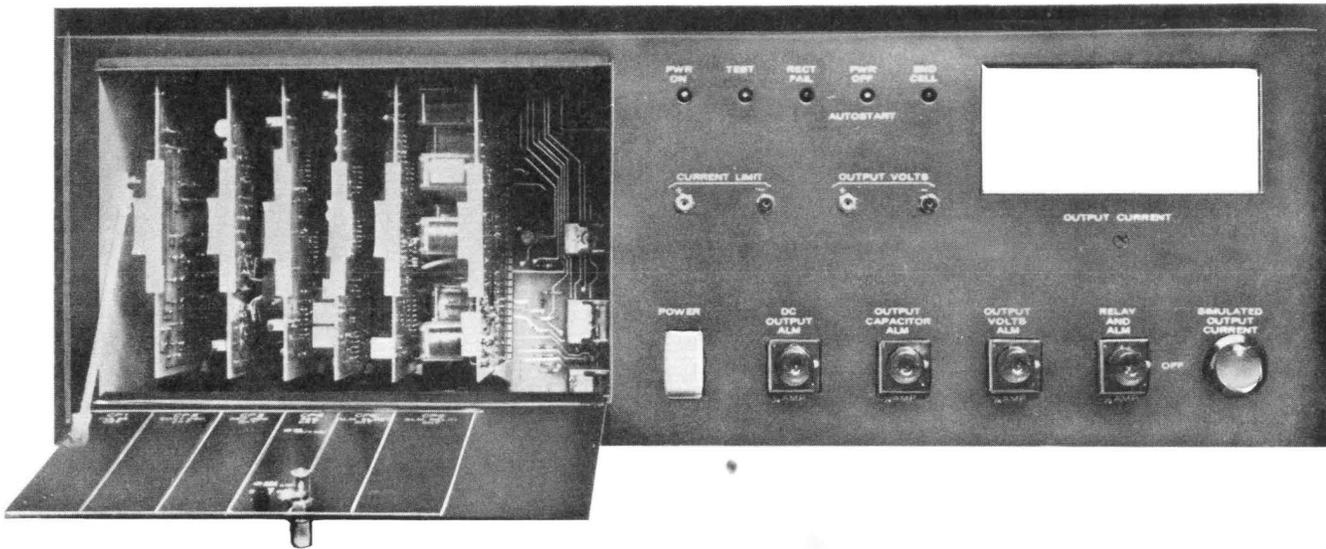

Fig. 3—KS-21520 Rectifier Control Panel—Lorain Products Corporation
- (4) Wait until the CAPACITOR CHARGING lamp has extinguished, then close the DC OUTPUT switch to the BAT position or EC position (EC on L11 or L12 only).
- (5) Return the toggle of the CAP CHG switch to the OFF position.
- (6) The rectifier can now be started by placing the POWER switch, Fig. 3, to the ON position.